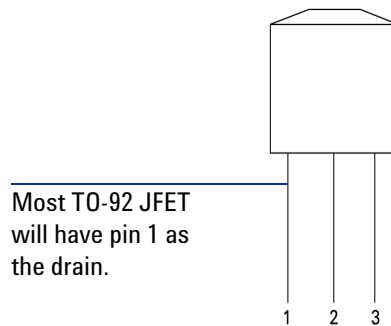

Figure 5-10 TO-92 JFET
- 3 In this example, we will use a JFET with TO-92 package as shown in Figure 5-10.